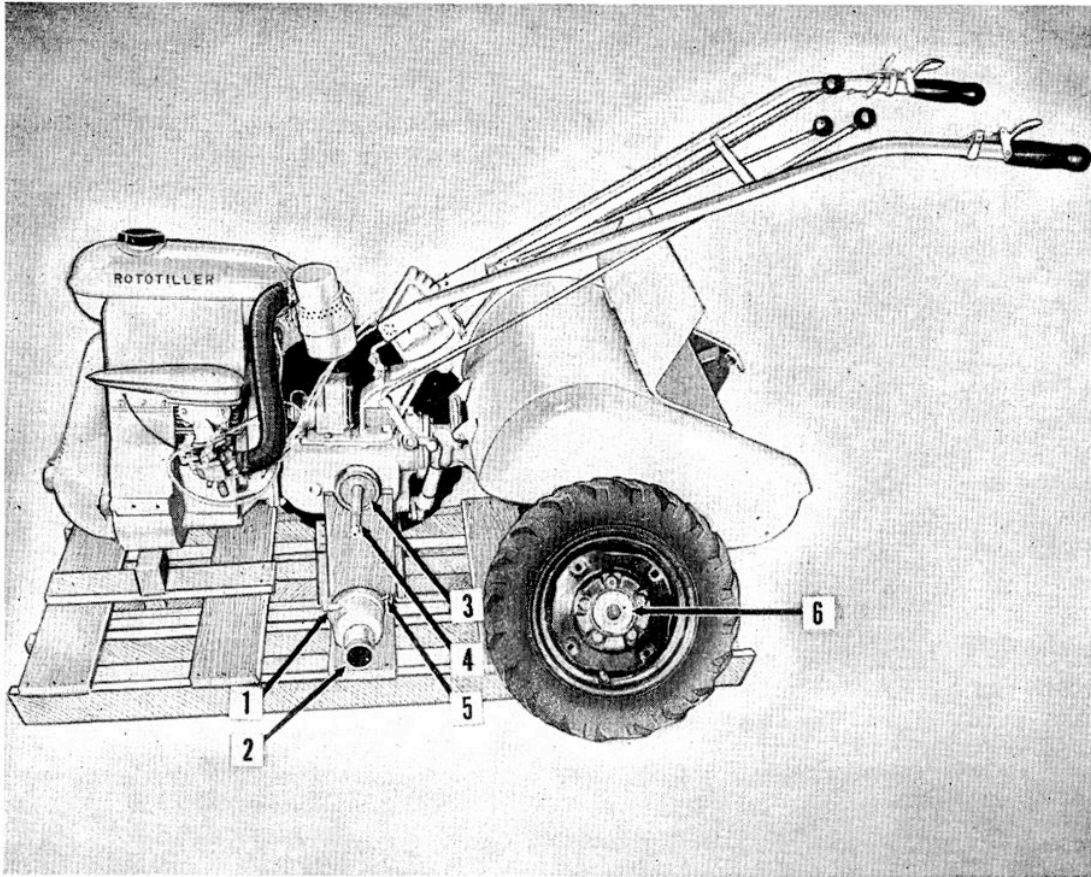

FIG. 3—READY FOR DISASSEMBLY
- a. Raise machine until wheels are clear then place blocks under transmission, or hoist machine onto shipping crate. (See figure 3.)